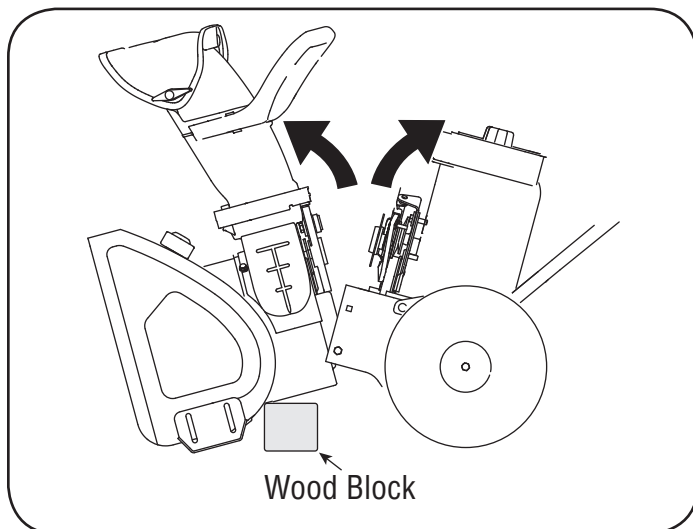

Figure 14
7. Push down on the unit's handle further opening this area and providing better access to the auger pulley. You may wish to place a wood block under the auger housing to hold the unit open. See Figure 14